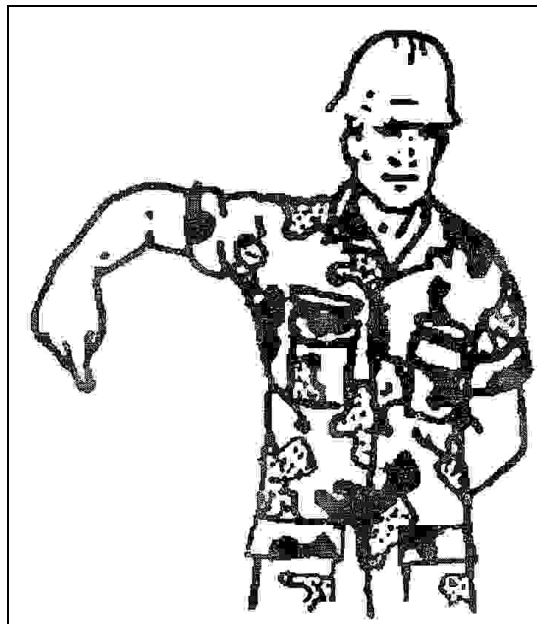

Figure 3-84. Lower Load
6. Use the signal to indicate LOWER LOAD (see Figure 3-84).